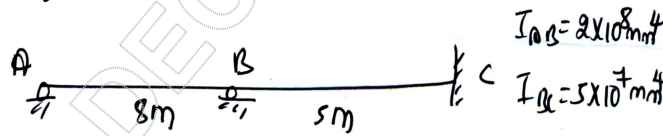

Fig.Q.8
- 8 The top and bottom surfaces of the continuous beam in the Fig.Q.8 are heated at  $20^\circ\text{C}$  and  $10^\circ\text{C}$  respectively. Determine the final moment using element stiffness method.  $E = 2 \times 10^5 \text{N/mm}^2$  and  $\alpha = 1.2 \times 10^{-5}/^\circ\text{C}$ . The depth of the member AB and BC are 400mm and 200mm respectively. (20 Marks)